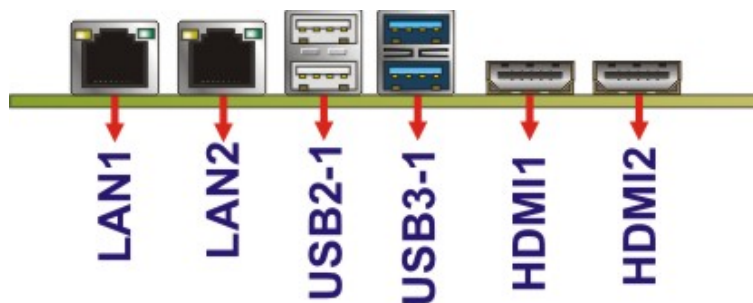

Figure 3-34: External Interface Connectors
See **Figure 3-34**
CN Location: See **Figure 3-34**
- CN Location: See Figure 3-34